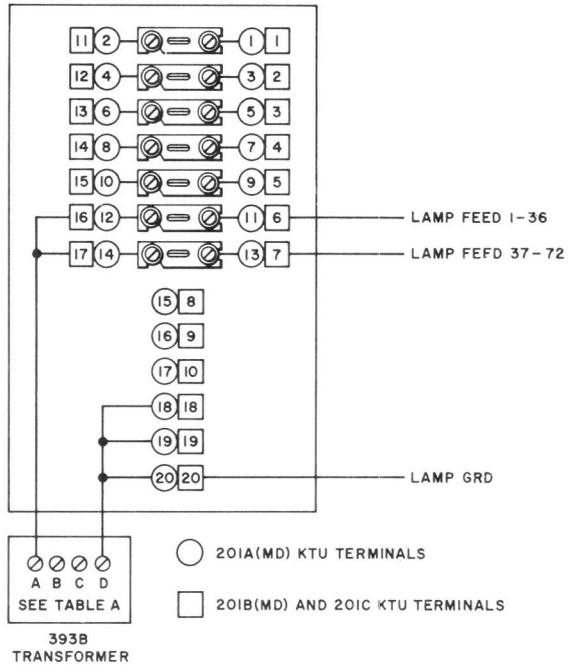

Fig. 2—201A (MD), 201B (MD), and 201C Key Telephone Units
2.04 The lamp feed leads must be fused again at the key equipment with a 2-amp fuse as shown in Fig. 2.